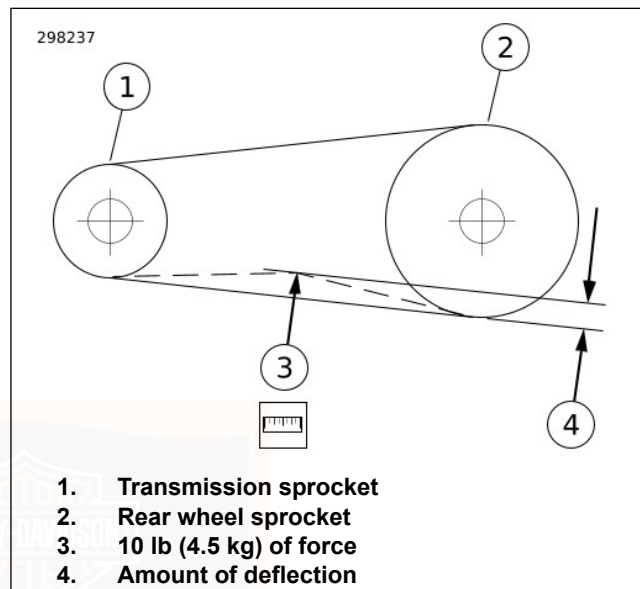

Figure 68. Checking Belt Deflection
- a. Slide O-ring (4) to zero mark (3).
- b. Fit belt cradle (2) against bottom of drive belt halfway between drive pulleys.
- c. Press upward on knob (6) until O-ring slides down to 4.54 kg (10 lb) mark (5) and hold steady.
4. See Figure 68. Measure amount of deflection (4) while holding gauge steady.